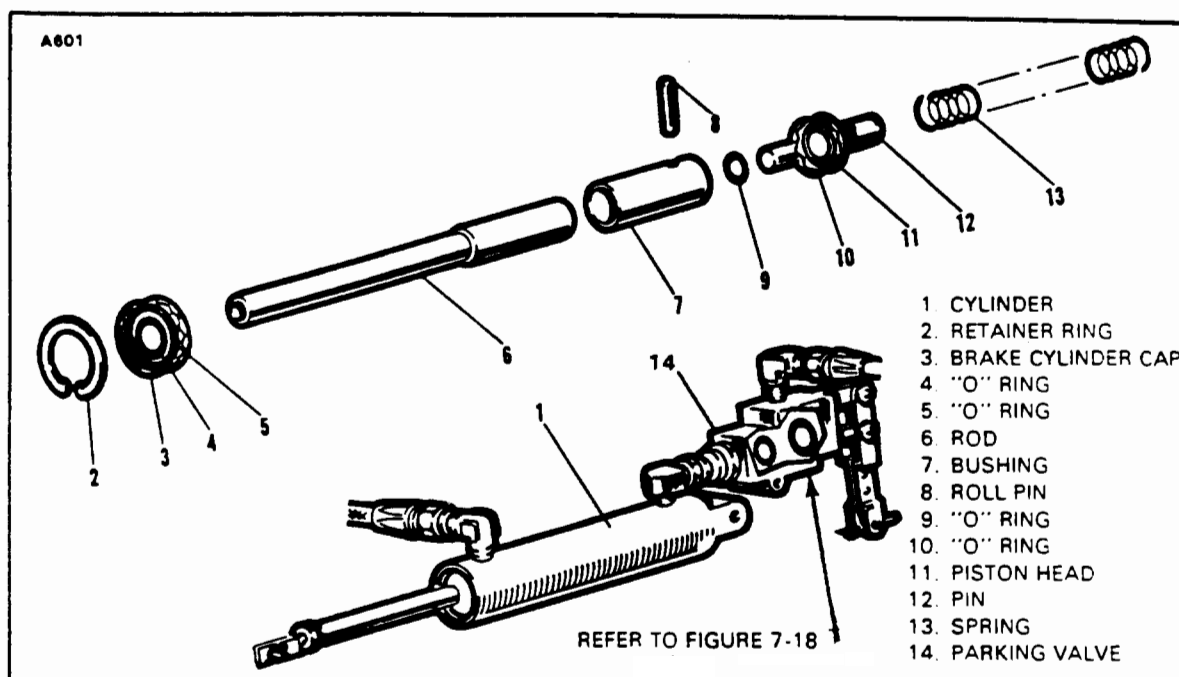
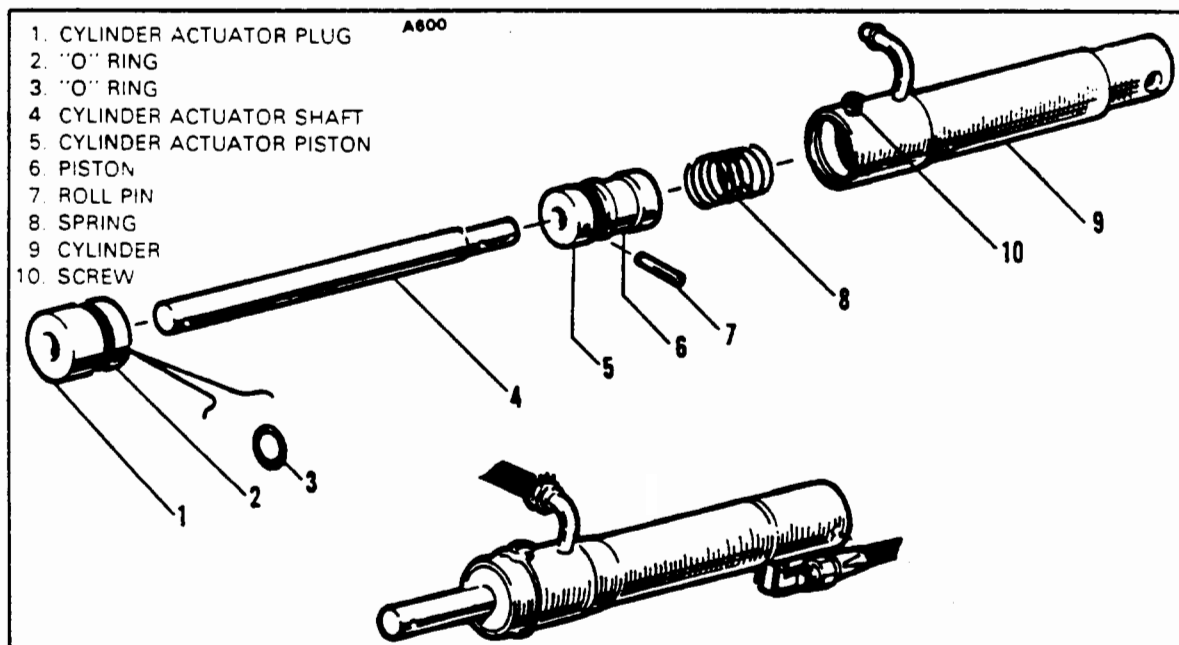
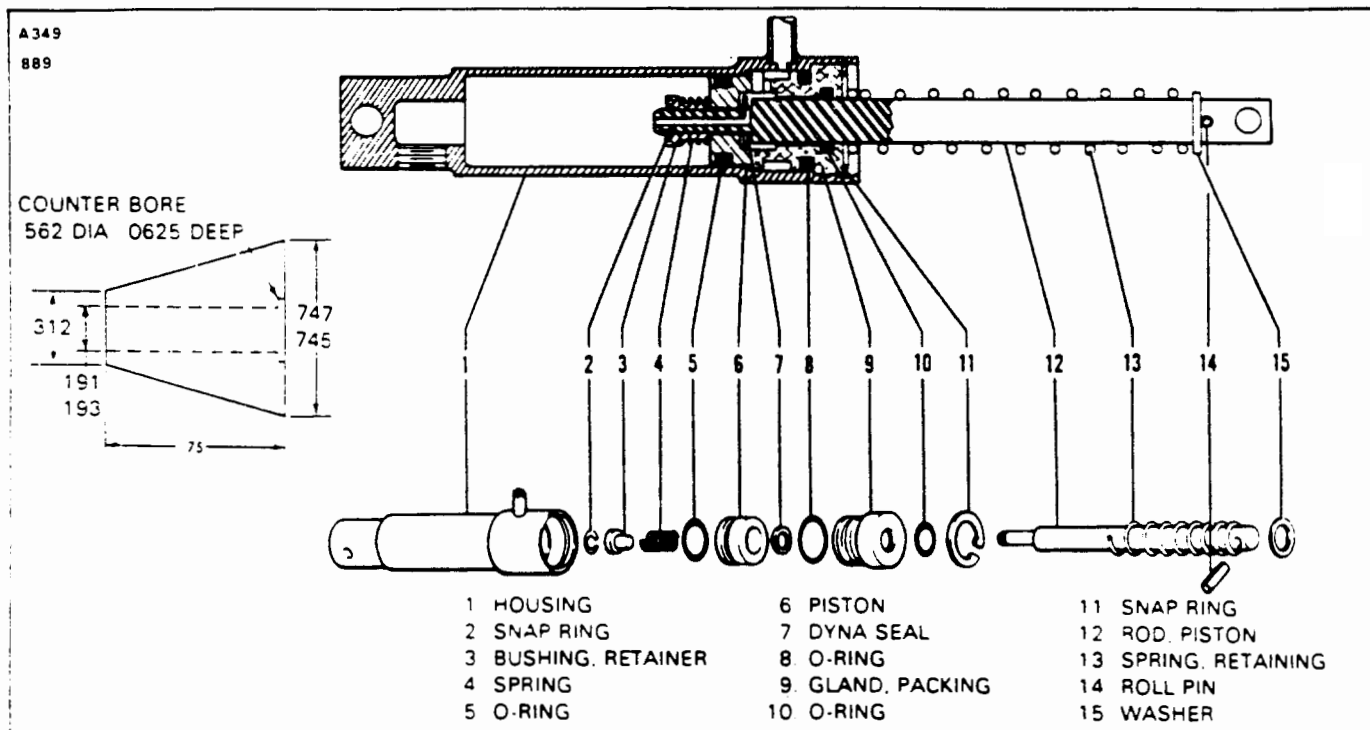

Figure 7-15. Brake Master Cylinder (Hand Brake)
Figure 7-16. Brake Master Cylinder (Hand/Parking Brake)
Figure 7-17. Brake Master Cylinder. (Hand/Parking Brake)
a. PA-28-150, -160, Serial Nos. 28-1 to 28-250 incl. (Refer to Figure 7-15.)
2. To disassemble the cylinder, first remove the piston rod assembly by removing the retainer ring (2) from the annular slot at the rod end of the cylinder. Draw the piston rod assembly from the cylinder. Remove the spring (13) from the cylinder.
3. The piston rod assembly may be disassembled by first removing the clevis end from the piston rod (6) and then sliding off the brake cylinder cap (3).
4. Remove the roll pin (8) from the bushing (7) thus releasing the piston head and O-rings (9 and 11).
b. PA-28-140, Serial Nos. 28-20002 to 28-21036 incl; PA-28-150, -160, -180 Serial Nos. 28-251 to 28-2700 incl; PA-28-235, Serial Nos. 28-10003 to 28-10679 incl. (Refer to Figure 7-16.)
2. Cut the safety wire and remove screw (10) that secures the plug (1) in the end of the cylinder (9).
3. Remove the plug (1) and piston assembly from the cylinder by pulling the cylinder actuator shaft (4) from the cylinder.
4. Remove the spring (8) from within the cylinder.
5. Remove the roll pin (7) from the cylinder actuator piston (5) and pull off the piston.
c. PA-28-140, Serial Nos. 28-21037 and up; PA-28-150, -160, -180, Serial Nos. 28-2701 and up; PA-28-235, Serial Nos. 28-10698 and up. (Refer to Figure 7-17.)
2. To disassemble the cylinder, first remove the piston rod assembly by removing the snap ring (11) from the annular slot at the rod end of the cylinder. Draw the piston rod assembly from the cylinder.
3. The piston rod assembly may be disassembled by first removing the small snap ring (2) securing the retainer bushing (3), spring (4), piston (6), seal (7), gland (9), and, if desired, the large retainer spring (13).
- a. PA-28-150, -160. Serial Nos. 28-1 to 28-250 incl. (Refer to Figure 7-15.)
b. PA-28-140, Serial Nos. 28-20002 to 28-21037; PA-28-150, -160, -180, Serial Nos. 28-251 to 28-2700 incl; PA-28-235, Serial Nos. 28-10003 to 28-10697 incl. (Refer to Figure 7-16.)
1. Install the new "O" rings (2 and 3) on the cylinder plug (1).
2. Install the cylinder actuator piston (5) on the actuator shaft (4) and secure with the roll pin (7).
3. Install a new "O" ring (6) on the actuator pin.
4. Place the spring (8) into the cylinder housing, and carefully slide the actuator and shaft assembly into the housing.
5. Install the plug assembly (1) on the shaft and install the screw through the housing.
- c. PA-28-140. Serial Nos. 28-21037 and up; PA-28-150, -160, -180. Serial Nos. 28-28-2701 and up; PA-28-235. Serial Nos. 28-10698 and up. (Refer to Figure 7-17.)
1. Install new "O" ring on the inside and outside of the packing gland (9) and on the outside of the piston (6). (When installing teflon "O" ring (5) on piston, it is recommended that it be installed with the use of a cone placed against the piston. The cone may be constructed of plastic or metal with dimensions shown in Figure 7-17.)
2. To assemble the piston rod assembly, install on the rod (12), in order, the roll pins (14), return spring retainer washer (15), retaining spring (13), packing gland (9) with "O" rings (10), seal (7), piston (6) with "O" ring, spring (4) and retainer bushing (3). Secure these pieces with snap ring (2) on the end of the rod.
3. Insert the piston rod assembly in the housing (1) and secure packing gland with snap ring (11).